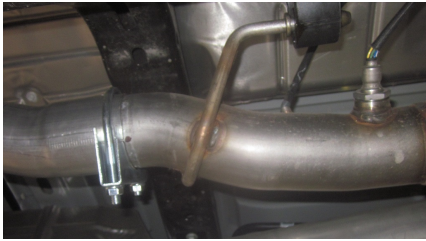

Figure 1
2. Slide the **3" Clamp** over the expanded end of the **Extension Pipe** and install it onto the end of the particulate filter exhaust pipe. Line up the **Extension Pipe** slot with the locator on the top of the stock pipe. Do not fully tighten the **3" Clamp** yet. **Refer to Figure 1**